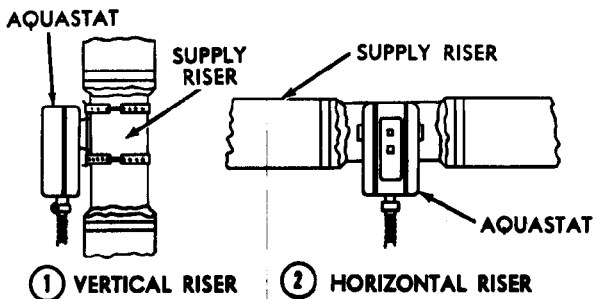

Figure 4-17. Installation of surface-mounted aquastat.
a. Temperature Limit Control. Every automatically controlled hot water boiler should be equipped with a high-temperature-limit control or "aquastat." This control should be set at least 10 degrees below steaming temperature and may be set lower if it is desired to limit the maximum water temperature for purposes of operational control. Where boiler operation is under the direct control of an aquastat, an additional water-temperature control must be installed to serve as a safety-limit control. Aquastats may be of the immersion type for installation within the boiler or supply riser (fig. 4-16), or of the surface type for installation in contact with the external surface of the supply riser (fig. 4-17). This type of aquastat is not recommended for riser-pipe sizes of less than 1½ inches because of the small contact area. In
① IMMERSION AQUASTAT INSTALLED IN BOILER
② IMMERSION AQUASTAT INSTALLED IN RISER